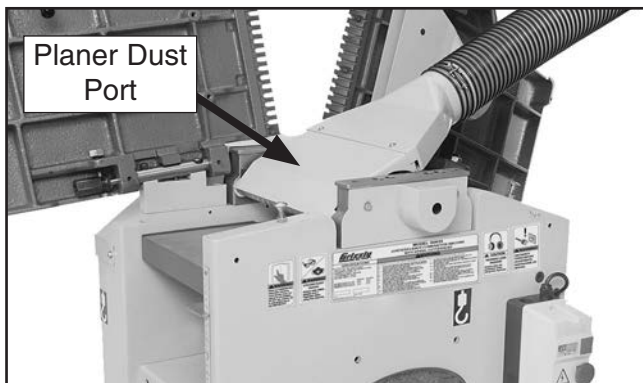

Figure 26. Planer dust port setup.
7. Swing the planer dust port clockwise over the cutterhead as shown in **Figure 26**.